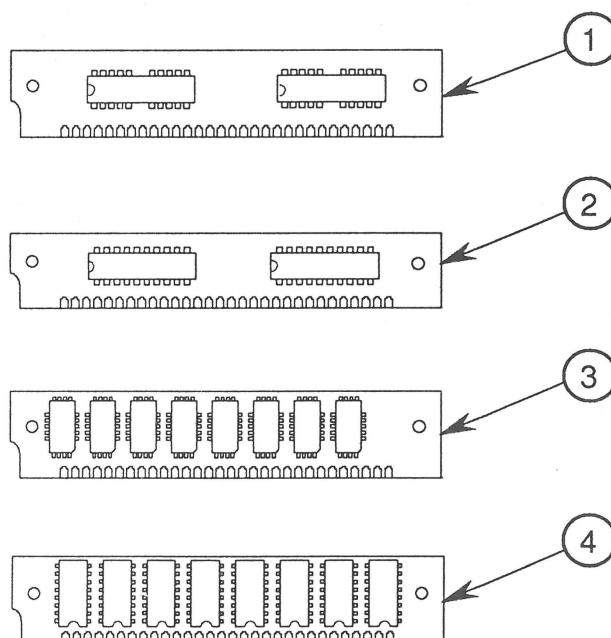

FIGURE 15
- 256K SOJ SIMM (Figure 15, #1)
- 256K DIP SIMM (Figure 15, #2)
- 256K PLCC SIMM (Figure 15, #3)
- 256K DIP SIMM (Figure 15, #4)